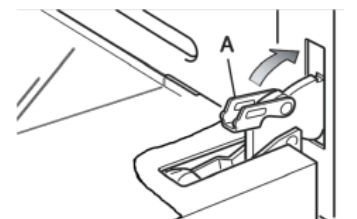

Fig. 27
- - Open the oven door completely and close the arms A on the left and right hinges, and open the door (Figure 27).